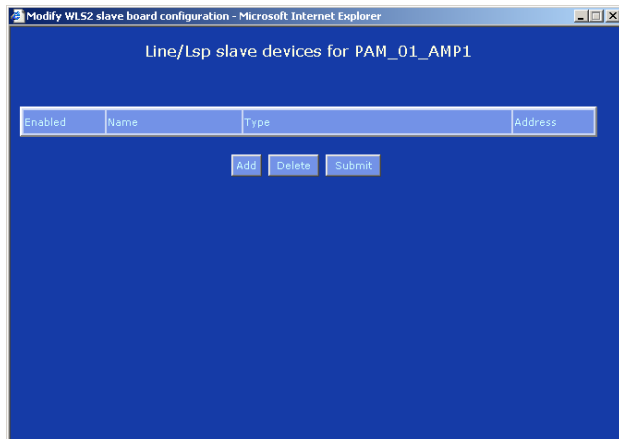

figure 34.13: Add slave device, step 1
- 1 Click the *Configure slave devices* button in the *Audio Outputs* category of the applicable power amplifier (see section 34.3.4). A screen similar to the one figure 34.13 appears.